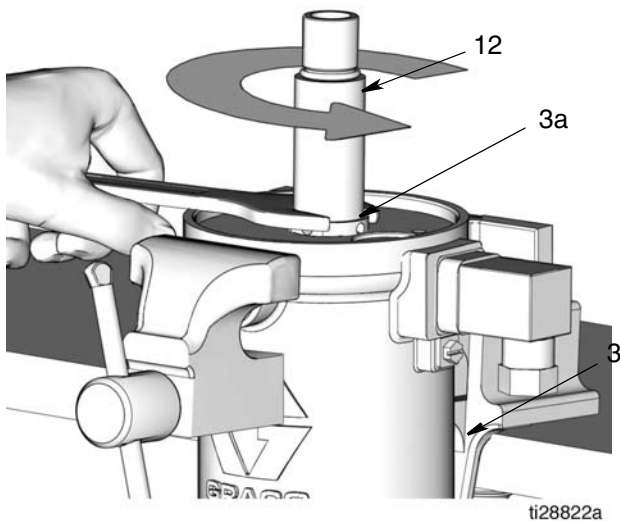

FIG. 16
13. Loosen nut (3a) and remove pump cylinder (12) from air motor cylinder (3) (FIG. 16).